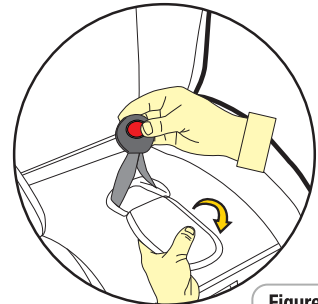

Figure 2
**Step 2:** Fold the rear of the restraint's base cover and foam forward to expose the seating surface of the base (refer Figure 2).
Fully extend the seat belt and pass the lap and sash sections of the vehicle belt under the first armrest, across the restraint base ensuring you pass the seat belt beneath the tongue in the plastic moulding (refer Figure 4 & 5) then under the second armrest, "CLICK" the buckle tongue into the buckle (refer to Figure 2, 3 & 4).